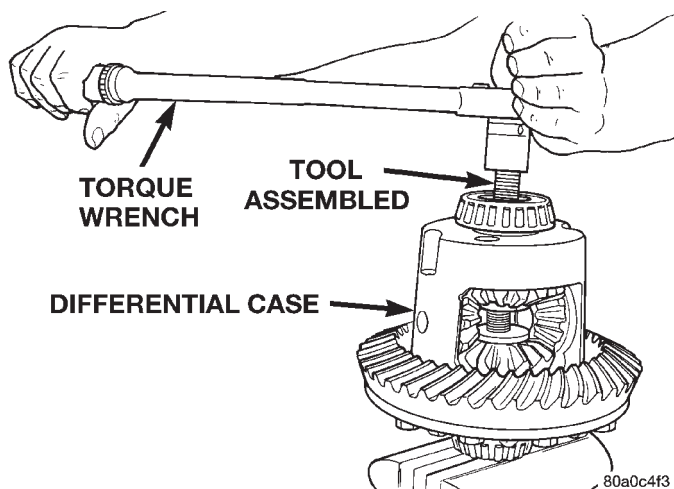

Fig. 41 Tighten Belleville Spring Compressor Tool
(9) Tighten forcing screw tool 122 N·m (90 ft. lbs.) (maximum) to compress Belleville springs in clutch packs (Fig. 41).